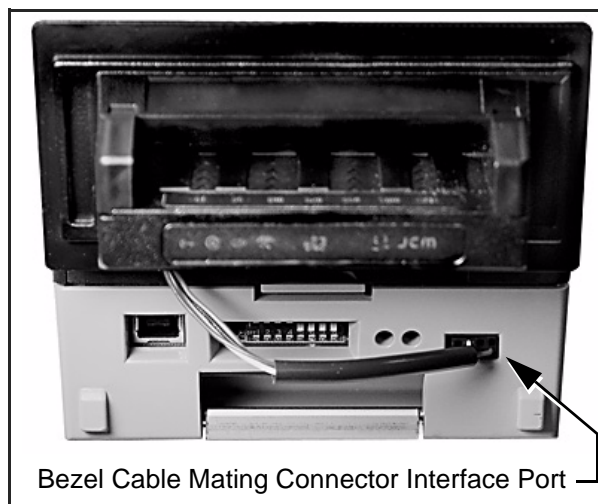

Figure 6 3-wire Mating Connector Interface Port
7. Plug the connector at the other end of the short bezel cable into its mating connector interface on the right front side of the Bill Acceptor assembly (See Figure 6).